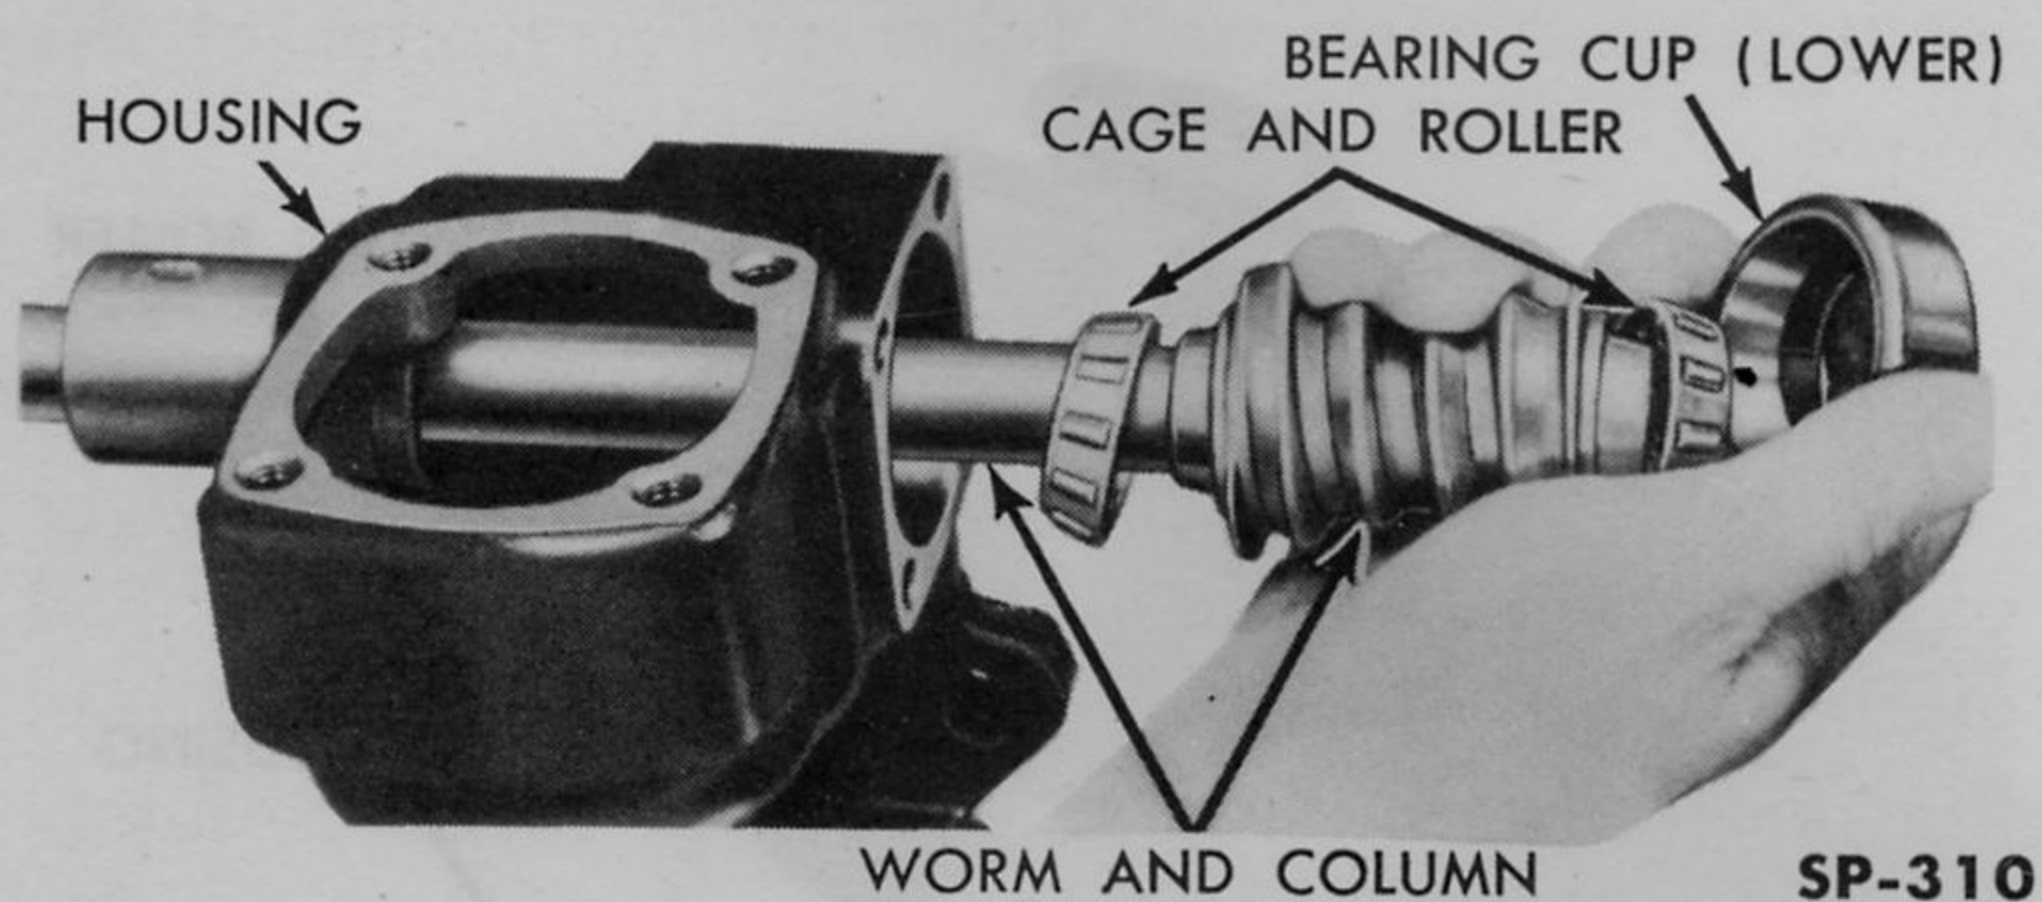

Fig. 294—Removing Steering Column and Worm
4. Remove the lower worm bearing cup, the lower bearing, the worm and steering column assembly, and the upper bearing (Fig. 294). The lower bearing cup can be loosened, if necessary, by tapping lightly on the end of the steering column with a soft hammer.